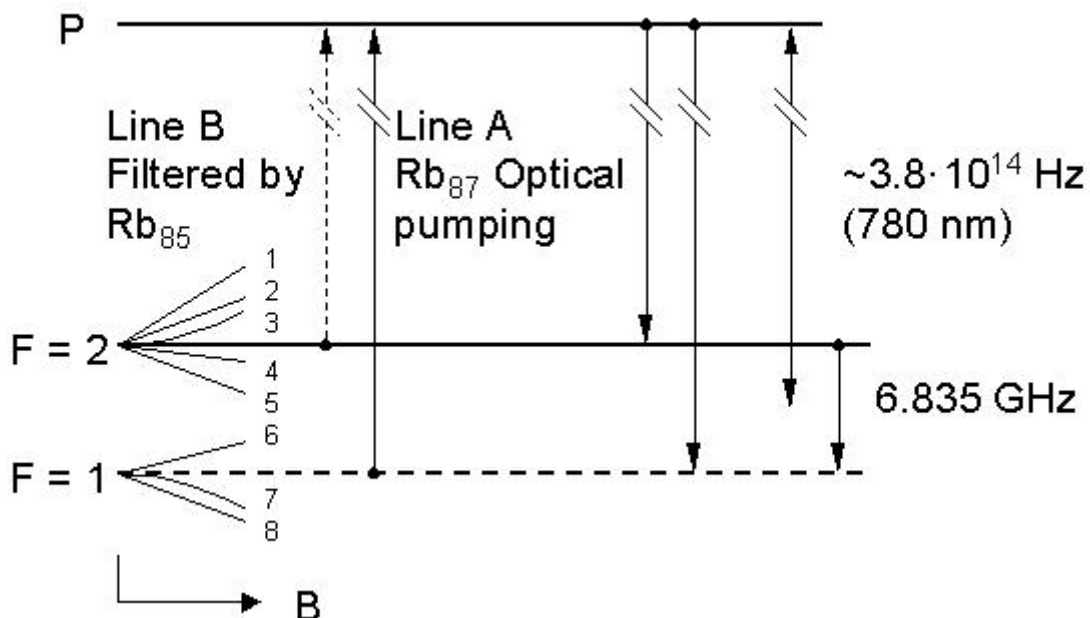

Fig. 2-1: Energy levels and transitions in Rb87 atoms during RMO operation
In order to detect the clock transition between these two levels, the atoms need to be manipulated in such a way that most of them occur in only one level. This is done by optical pumping via a higher lying state (P). Fig. 2-1 visualizes the atomic energy levels and transitions involved in the optical pumping process.